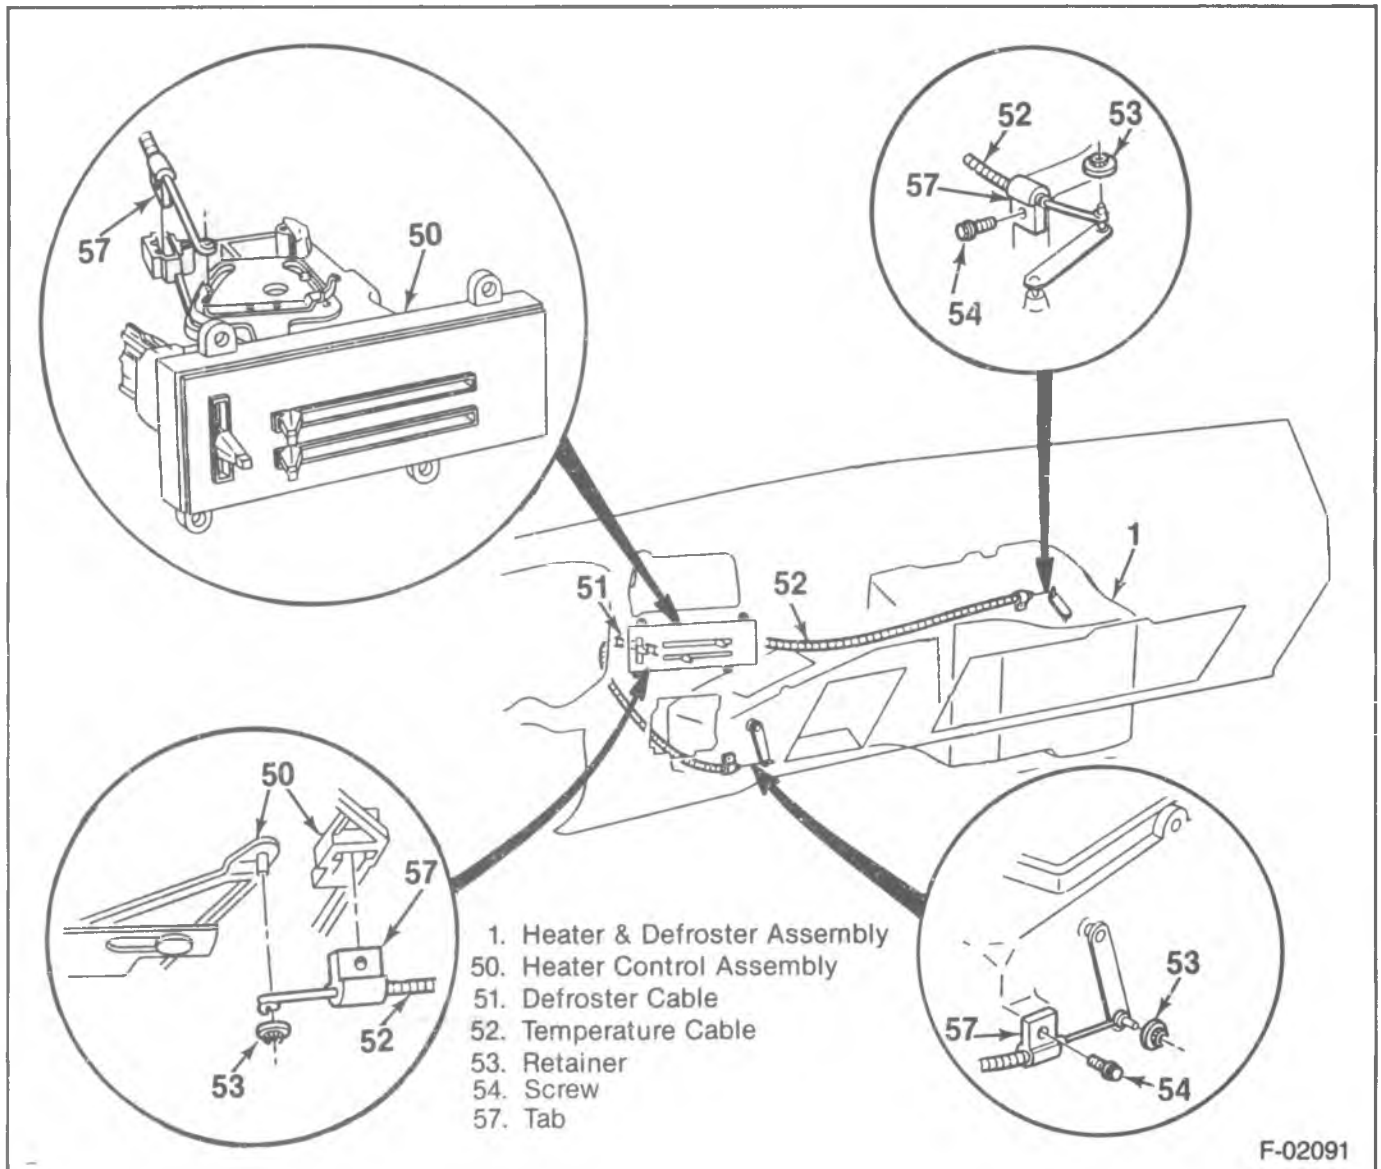
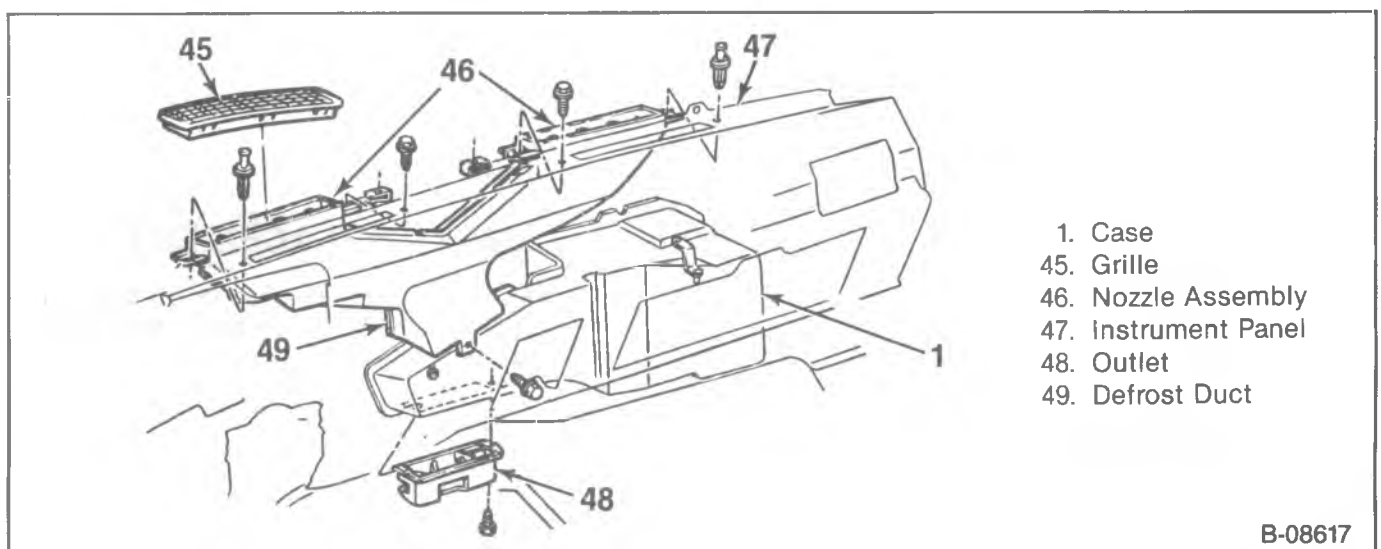

Figure 13—Control Assembly and Cables
Figure 14—Floor and Defroster Vents
5. Defroster (51) and temperature cables (52) (figure 13).
6. Floor outlet (37).
7. Screw (12) that holds the defroster duct to the heater distributor (figure 14).
10. Heater case (24).
12. Core (20).
←→ Remove or Disconnect (Figure 13)
→← Install or Connect (Figures 13)
↔ Remove or Disconnect (Figure 13)
→ Install or Connect (Figures 13)
↔ Install or Connect (Figure 13)